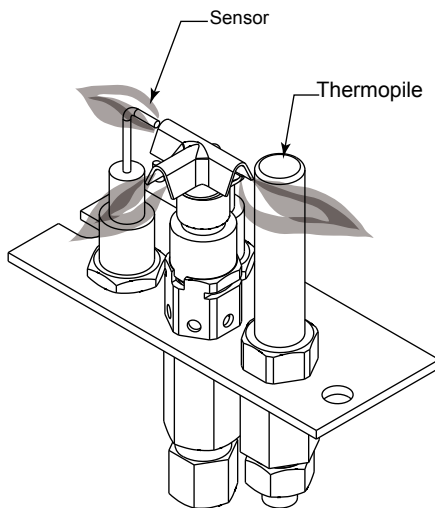

Figure 53-
1. Check pilot flame. Flame should touch approximately 3/8" of the top of thermopile and touch top of thermocouple. *Figure 53*. If not, contact dealer for service.